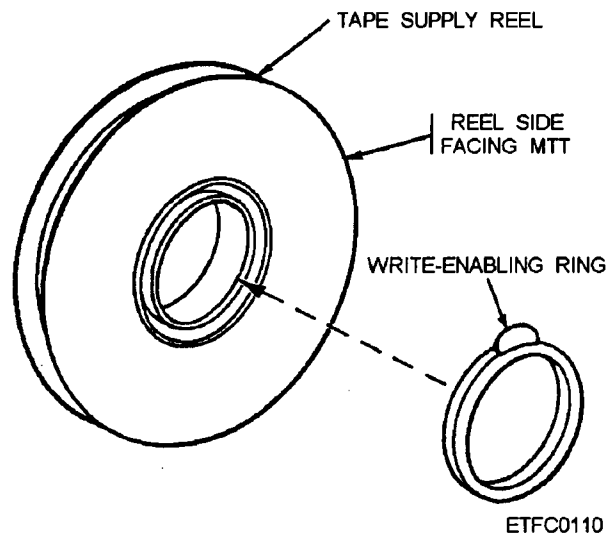

Figure 9-15.—A write-enabling ring.
**MTU WRITE PROTECTION.**— Protection of master tapes is provided by the use of a write-enabling ring and sensing circuitry in the MTTs. Only tapes with a write-enabling ring installed, as shown in figure 9-15, may be used in the write operation. Tapes without a write-enabling ring are protected from the write operation.